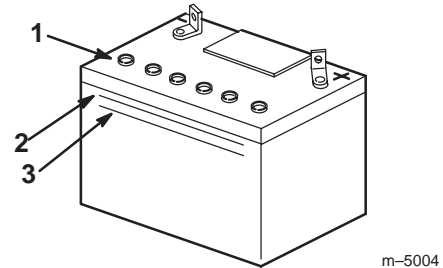

Figure 19
2. Look at the side of the battery. The electrolyte must be up to the Upper line (Fig. 19).
Note: Do not allow the electrolyte to fall below the Lower line (Fig. 19).
- Remove the vent caps from the battery (Fig. 19).
- Slowly pour distilled water into each battery cell until the electrolyte level is up to the Upper line (Fig. 19) on the battery case.
- Wait 5 to 10 minutes after filling the battery cells. Add distilled water, if necessary, until the electrolyte level is up to the Upper line (Fig. 19) on the battery case.